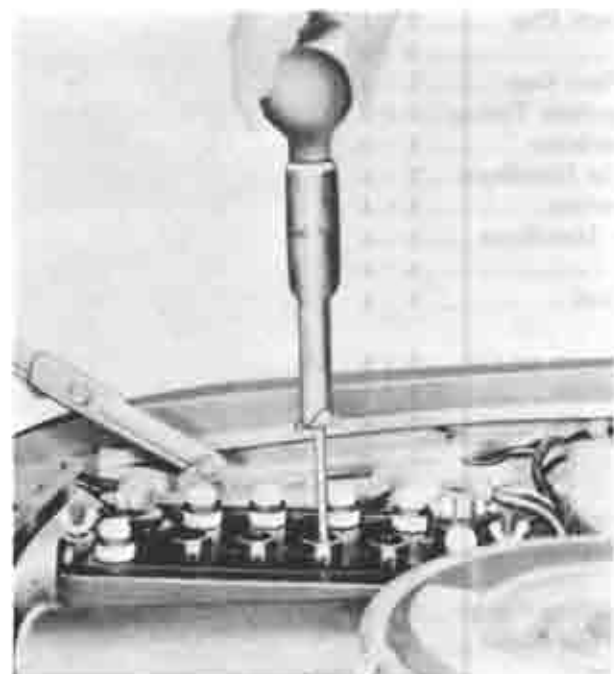

Fig. 5-1 Checking specific gravity
2. Check the specific gravity of the electrolyte with a hydrometer, as shown in Fig. 5-1. If the reading is 1.26 or more, it indicates that the battery is fully